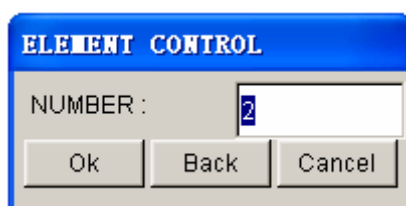

Figure 5.3.13 Element size
- Enter the size or number of elements to be created in the Element Control dialog box as illustrated in Figure 5.3.13. Then, click on OK button.